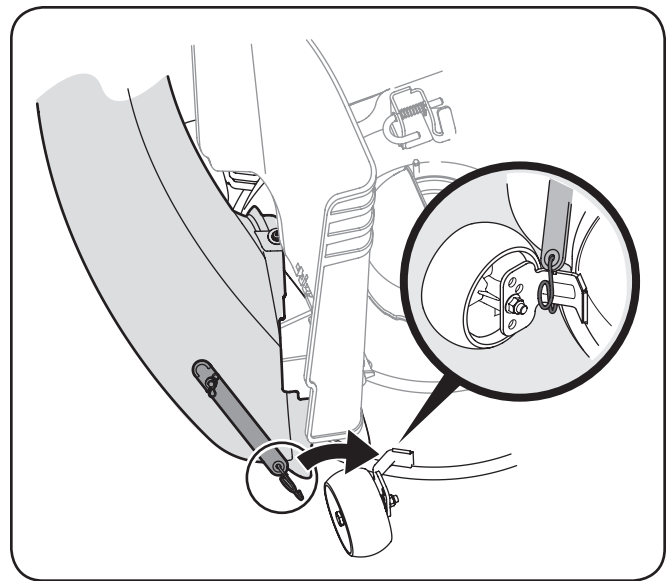
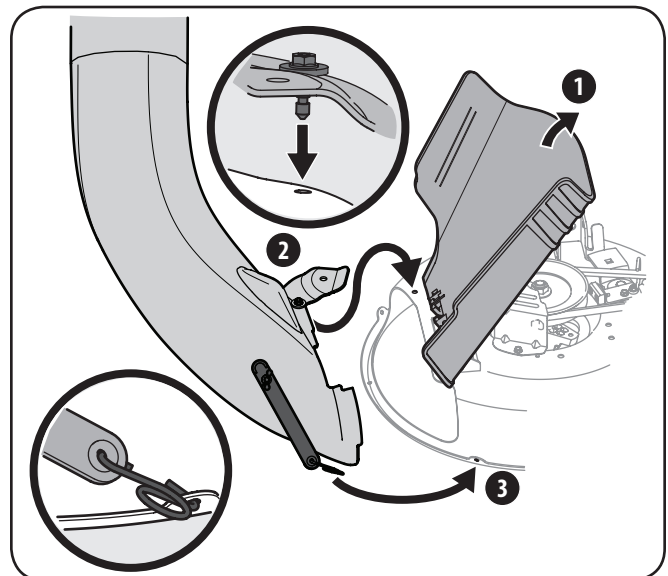

Figure 4-18
Figure 4-19
4. With the tractor's discharge chute raised up and held open, install the chute elbow over the chute opening by placing the deck mounting pin in the hole provided, as shown in the upper inset of Figure 4-19, then secure the elbow to the deck by hooking the retainer strap torsion spring hook over the deck wheel mounting bracket as shown in Figure 4-18.
Note: On decks without deck wheels, hook the retainer strap into the hole provided in the flange on the front-side of the cutting deck. See Figure 4-19.